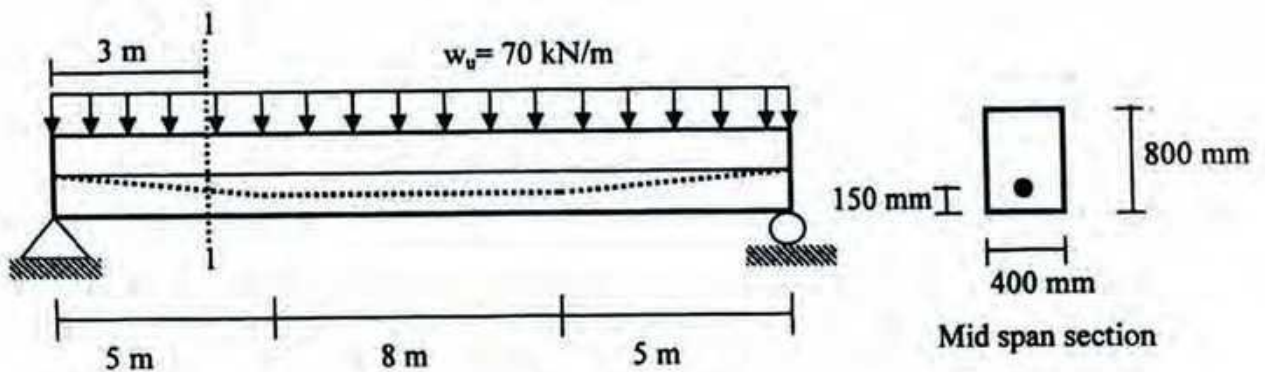

Figure: 3
4. (a) Check the shear strength for the beam shown in Figure: 3 at section 1-1 which is 3 m from support. Given that this section is adequate for $w_u = 70$ kN/m on the basis of its flexural strength. (Given: $f_c = 40$ MPa, $f_{se} = 1100$ MPa, $A_{ps} = 1760$ mm²) (15)